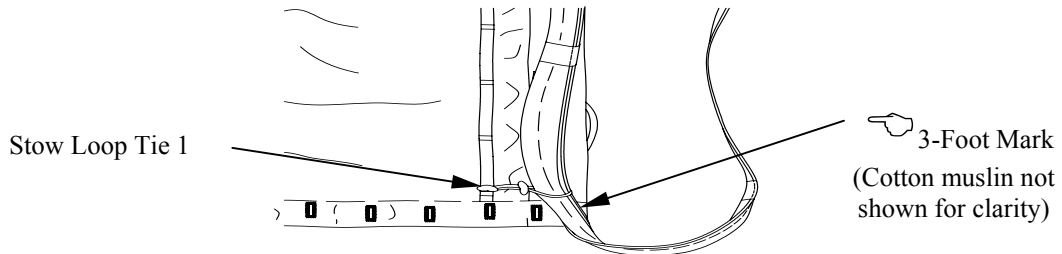

Figure 5. Installing 24-inch Ties.
- c. Pass running ends of the 24-inch type I, 1/4-inch cotton webbing around both plies and secure with a surgeon's knot and locking knot (figure 5).